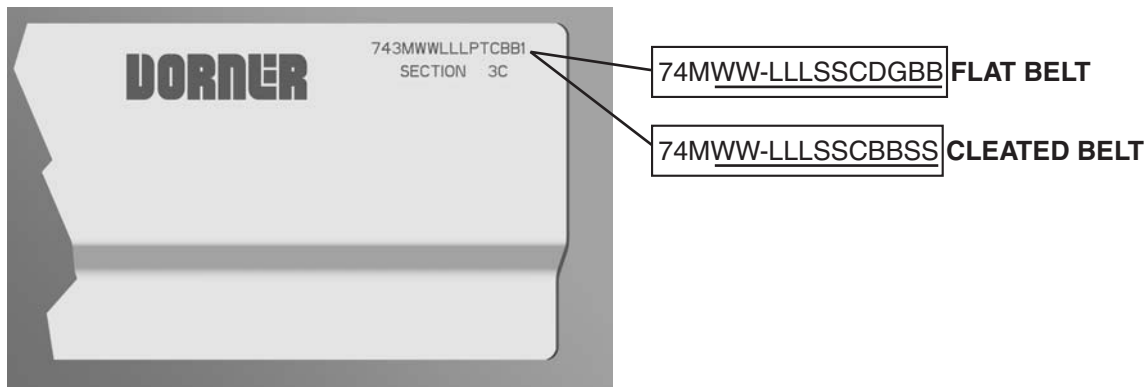

Figure 72
Refer to the model number on the conveyor frame (Figure 72). From the model number, determine conveyor width (WW), length (LLL), drive stand location (S), idler stand location (S), cleaning options (C), drive/pulley type (D), profile (G) and belt material (BB).